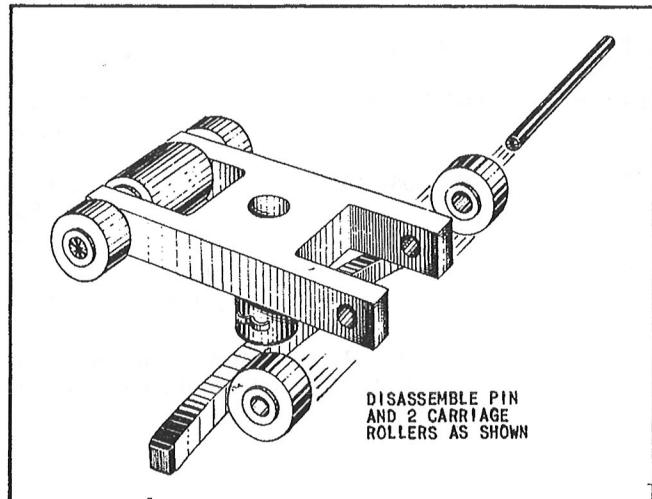

Figure 2
(3) Remove from the carriage, the pin having two rollers only. (See figure 2.)